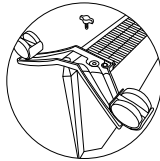

Figure. 5
3. Secure the chassis using the supplied mount (Fig. 5).